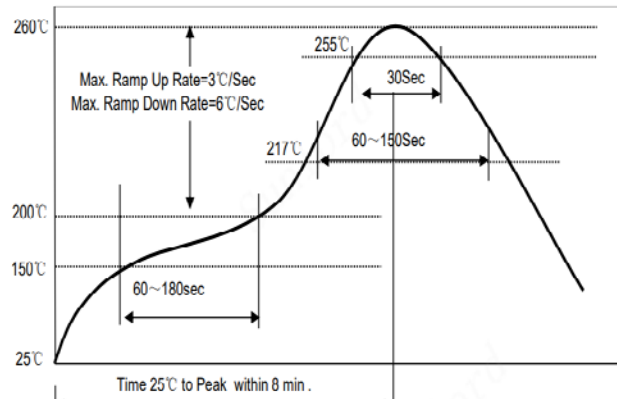

Fig. 10.1-1.
- Please refer to **Fig. 10.1-1**.